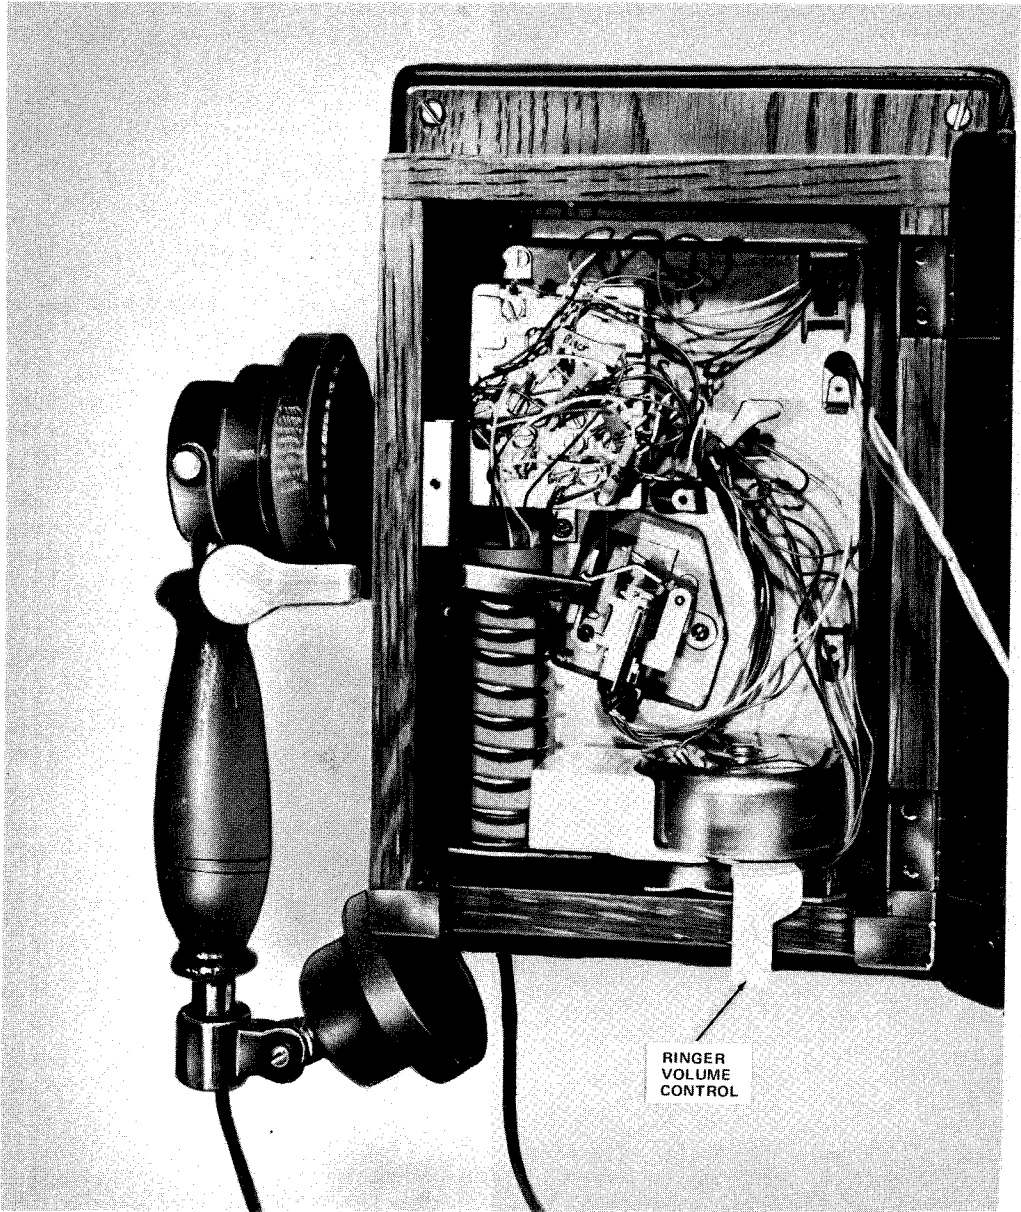

Fig. 3—951A1-03 Telephone Set With Front Panel Door Open
**2.05** The ringer volume can be adjusted by moving the ringer volume control lever protruding from the bottom front of the set (Fig. 3).
screw counterclockwise until the front hinged panel of the housing is released and can be opened (Fig. 3).